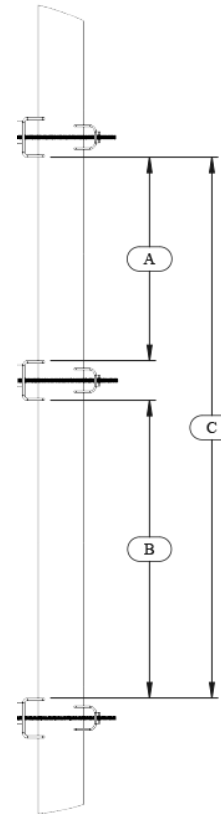

Figure 11: Bracket heights for MX/MC
3. Measure the distances separating all three brackets. See Figure 11 and Table 4.